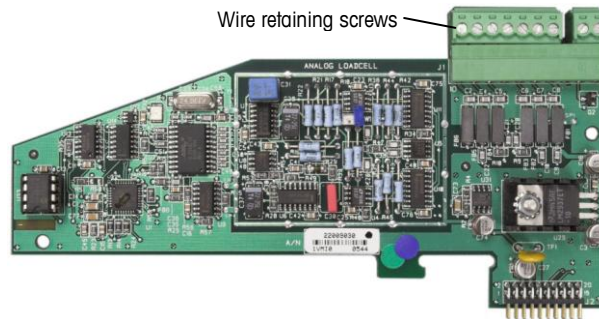
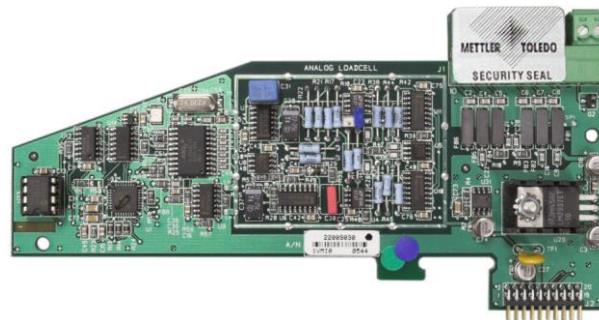

Figure A-74: Unprotected Option Board Connection
Figure A-75: Security Seal Installed
3. To protect the load cell interconnecting cable/s (attached to option boards), a security seal must be placed over the connectors to ensure that they are not removed or disconnected. The seal also prevents access to the wire retaining screws indicated in Figure A-74. Figure A-75 shows a seal in place.